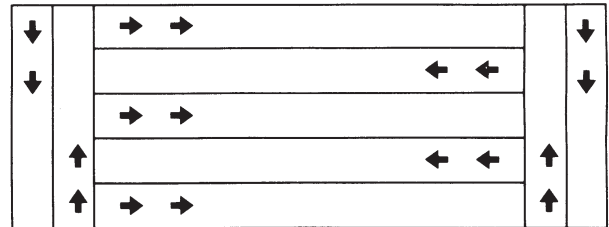

FIGURE 25
- For easiest application, first apply material across both ends of the area. Two or three passes on each end are sufficient. Then apply material back and forth as shown. Use the end areas for turning around, shutting off the spreader as you enter the end areas and turning the spreader on again as you leave the end areas for your next pass. See figure 25.